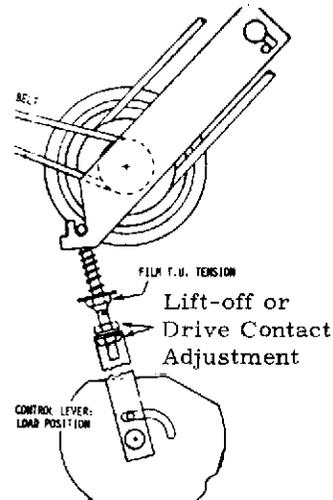

Figure 3-29. FILM TAKE-UP TENSION
- a. Slightly loosen two screws visible through the front of the lens mount (41).
- b. Close lens mount slowly by lifting control lever, noting contact between pressure shoe and left edge (viewed from front) of the aperture plate (53).
3. Film Take-Up Tension (Fig. 3-29)